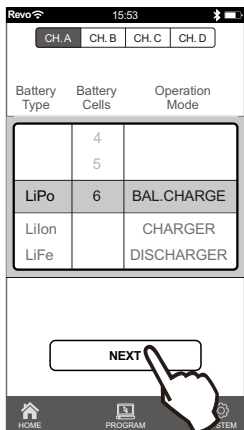

Figure 1
5. Select battery type, cells and charging methods. (Figure 1)